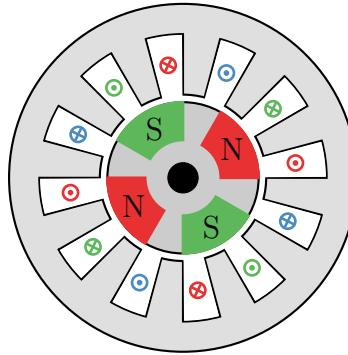

Fig. 2: Sketch of the utilized PMSM.
The cross-section of a permanent magnet synchronous machine (PMSM) is given in Fig. 2 with the parameters from Tab. 2. All windings per phase are connected in parallel ($a = 2$).
i.e., is the negative short-circuit current phasor. Hence, the short-circuit current is lagging by $\pi/2$ to the inner voltage phasor and needs to be aligned with the real axis given the inner voltage phasor orientation with the imaginary axis. Applying some trigonometric identities to Sol.-Fig. 2 it can be found that the fraction of the short-circuit current aligned with the stator voltage phasor is given by
Solution Fig. 2: Phasor diagram of a synchronous machine with solution phasors
With this information the stator current phasor can be added to Sol.-Fig. 2. The stator current phasor is advancing the stator voltage phasor by the angle φ .